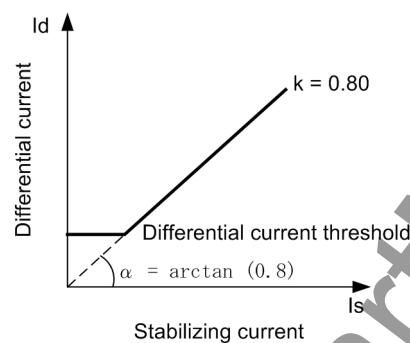

Figure 7-12 Trip characteristic of the busbar protection
- ❑ Repeat the checking with a different constant current I_1 . The Trip characteristic graph is shown in Figure 7-12, page 281.
- ❑ Repeat the test with different constant currents I_1 . The trip characteristic graph is shown in Figure 7-12, page 281.